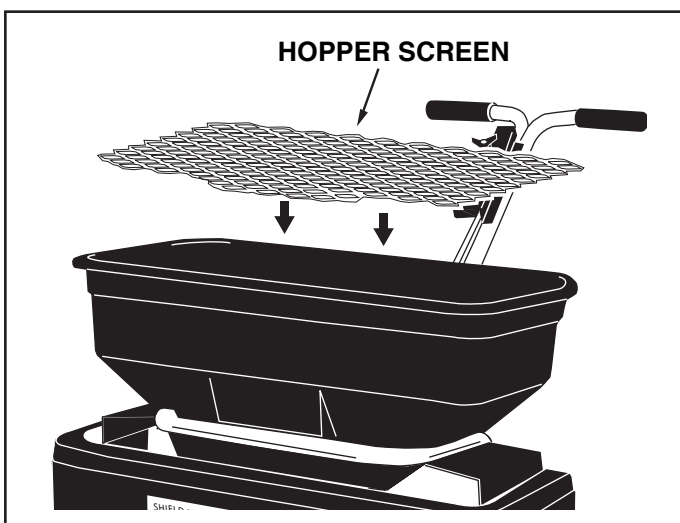

FIGURE 14
26. Place the hopper screen down into the hopper to help break up clumpy material and to prevent large clumps from reaching the bottom of the hopper and clogging the opening. See figure 14.